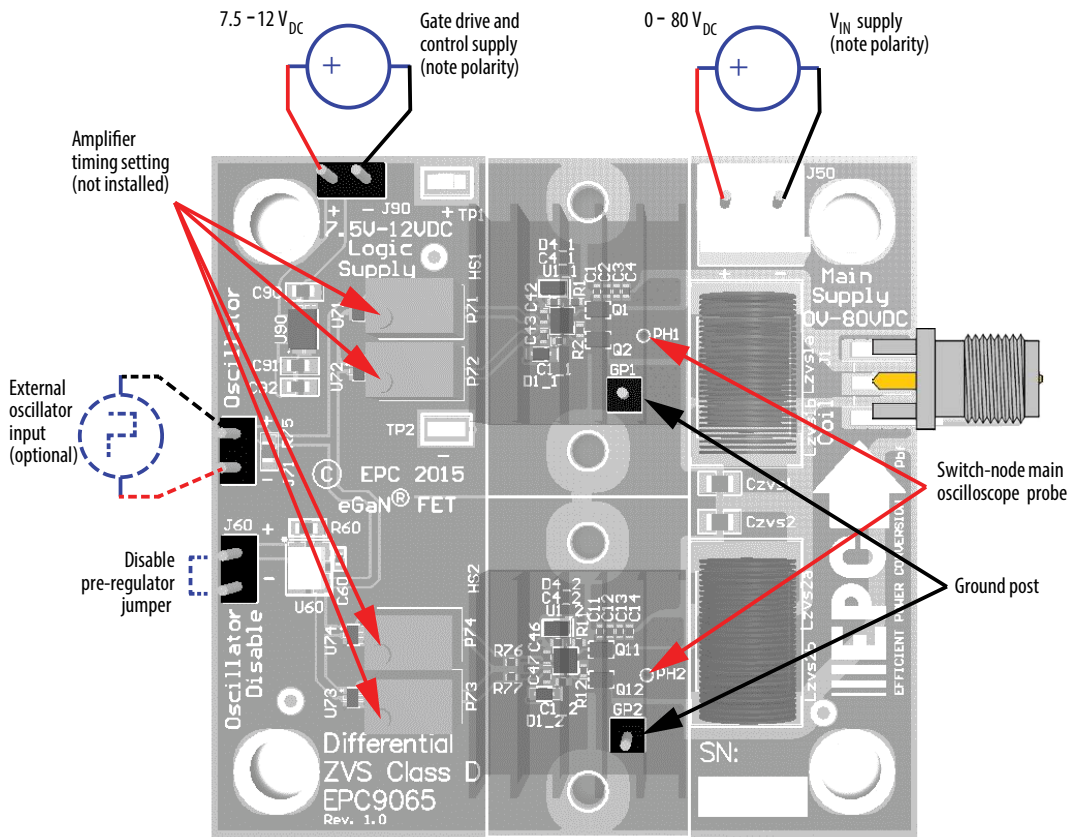

Figure 2: Proper connection and measurement setup for the amplifier board
2. With power off, connect the main input power supply bus to the bottom pin of J50 and the ground to the ground connection of J50 as shown in figure 2.